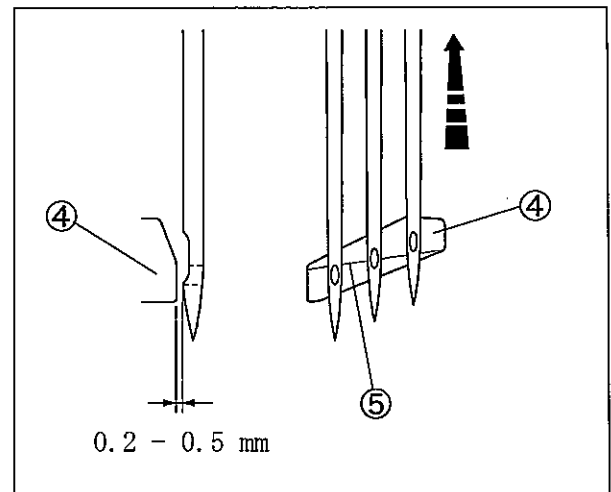

Fig. 60
- (2) When raising the needles, and the upper needle eye of the left needle ⑥ is aligned with the ridge line ⑤ on the needle guard(rear) ④, make the clearance between them to 0.2 - 0.5 mm. (Fig. 60)